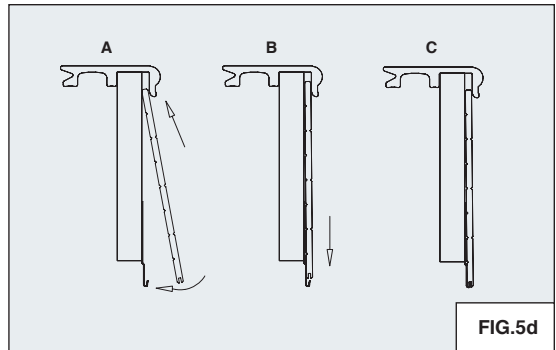

FIG.5d
- Insert the square edge of the fascia cladding into the space between the bullnose and the rim joist. Swing the lower edge of the fascia cladding towards the rim joist and drop the cladding onto the hanger so that the hook of the hanger fits into the groove on the cladding. (REFER TO FIG.5d)